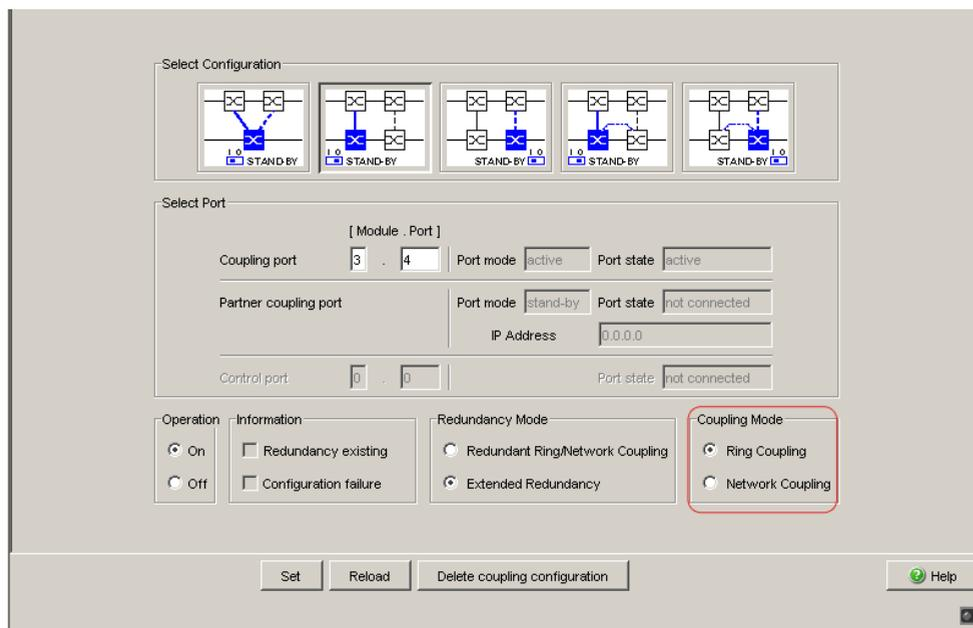

Figure 20: Two-Switch coupling: Selecting the coupling mode
- In the “Coupling Mode” frame, select (see figure 20)